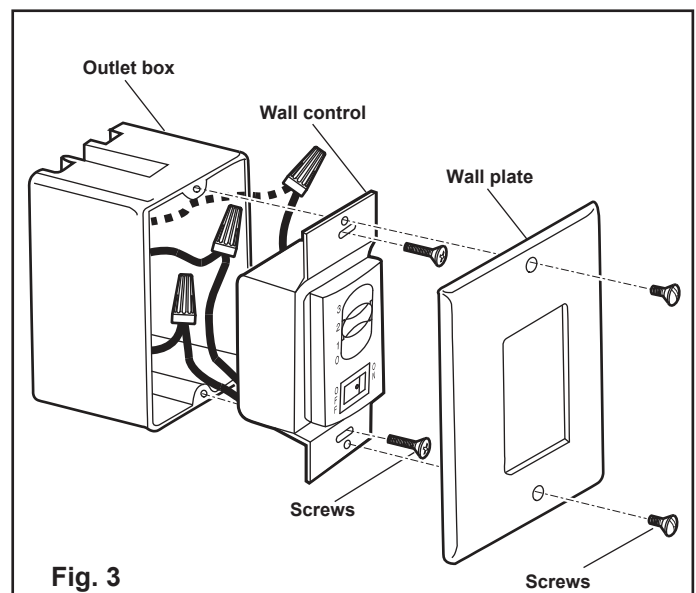

Fig. 3
- Attach the control to the outlet (wall) box and secure with 2 outlet box screws (Figure 3).
- Attach the wall plate over the wall control and secure with the two screws provided (Figure 3).
3. Attach the control to the outlet (wall) box and secure with 2 outlet box screws (Figure 3).
4. Attach the wall plate over the wall control and secure with the two screws provided (Figure 3).